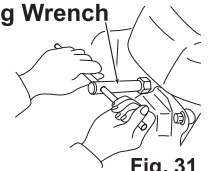
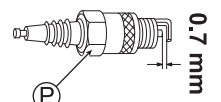

Fig. 31
Fig. 32
2. Remove the spark plug (P) with the attached plug wrench. (See Fig. 31)
3. Exchange the spark plug (P) if a great amount of carbon is adhered to it or its insulator is cracked or damaged.
4. Remove the carbon adhered to the electrode, and adjust the electrode clearance to 0.7 mm. (See Fig. 32)
5. Install the spark plug (P) and the spark plug cap (Q).